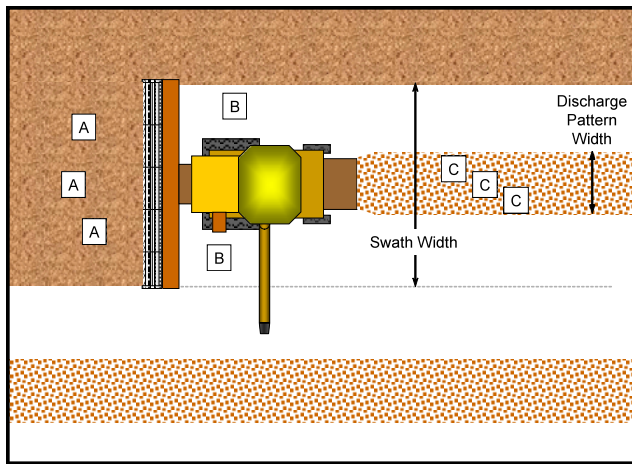

Figure 28.3. Locations using grain platform head to determine pre-harvest and machine losses in small grain harvest. (Illustration by Daniel Humburg)
Consistency of observation is important to compare results from one assessment to another. The number of seeds per ft² should be made in an area of relatively uniform crop and away from headlands. Take a full swath and operate at constant speed. Stop the machine and the separator; safety is always important. Now use the 1 ft² frame to count kernels of grain at locations as indicated in Figure 28.3.
Last, determine the grain loss behind the machine at location "C" in Figure 28.3. Avoid the area immediately behind the machine, particularly if the separator was allowed to empty, and move farther back where the machine was operating steadily. Here it is necessary to determine the width of the distribution of the residue. If no significant spreading is being done, then the width of the discharge is essentially equal in feet to the width of the sieves. If the residue spreader can be easily turned off, it may make it easier to conduct this part of the test. When the combine is distributing the residue wider than the cleaning shoe, these measurements should be done across the residue pattern width.
Determine the width, in feet, of this pattern. Then use the frame to measure losses on the ground in a number of locations within this swath as shown in Figure 28.3. Examine threshed grain heads in these areas for any grain that was not knocked out of the head by the threshing system and record this number for each site.
- After stopping, multiple kernel counts are taken at locations A, B, and C from Figure 28.3.